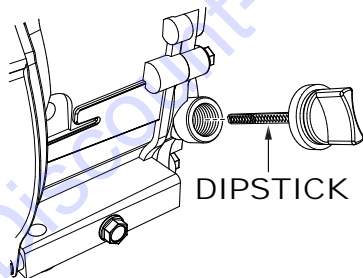

Figure 12. Engine Oil Dipstick (Removal)
2. Remove the filler dipstick from the engine oil filler hole (Figure 12) and wipe it clean.